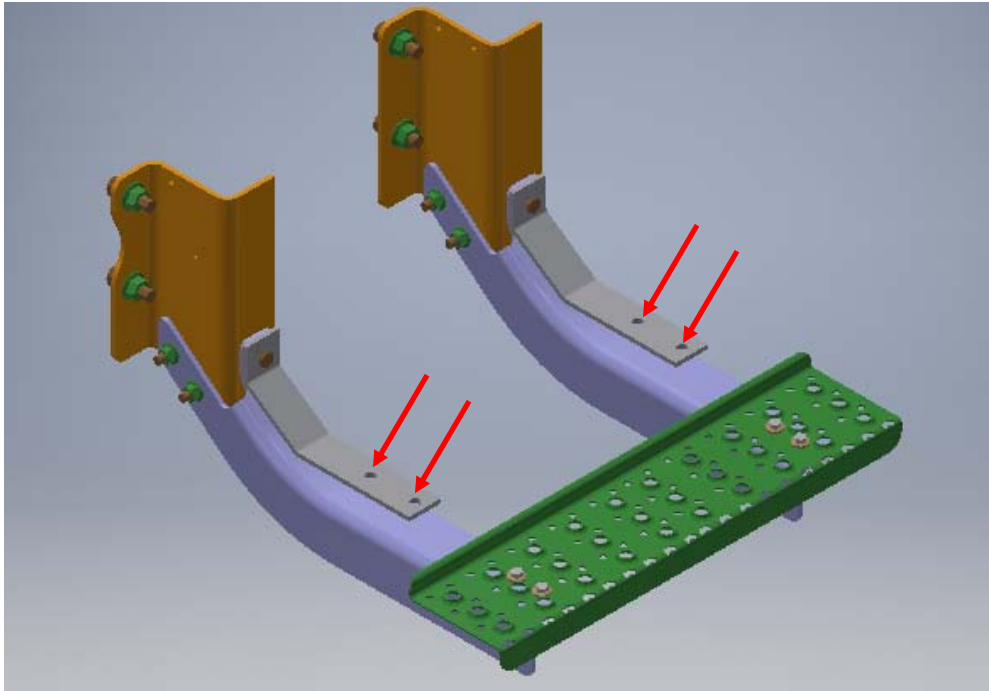

Figure 2: Pump Plate Supports Location
2. Install the Pump Plate Supports (R-20550) using the bolts that were just removed. Bolts do not have to be torqued at this time as we must mark and drill the mating holes for the lower portion of the supports. (Figure 2)
3. Ensure the Pump Plate Supports are parallel with the step's mounting bracket and mark holes to drill. (Figure 2)